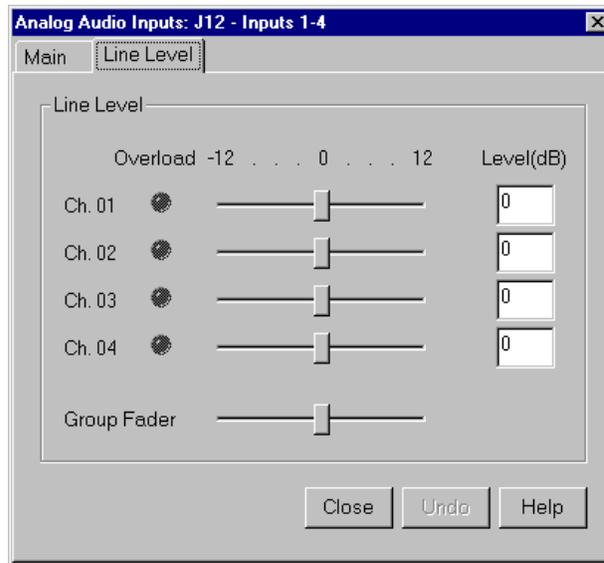

Figure 39. Analog Audio Input dialog box, Line Level tab
1. In the Analog Audio Input dialog box, click the Line Level tab (Figure 39).